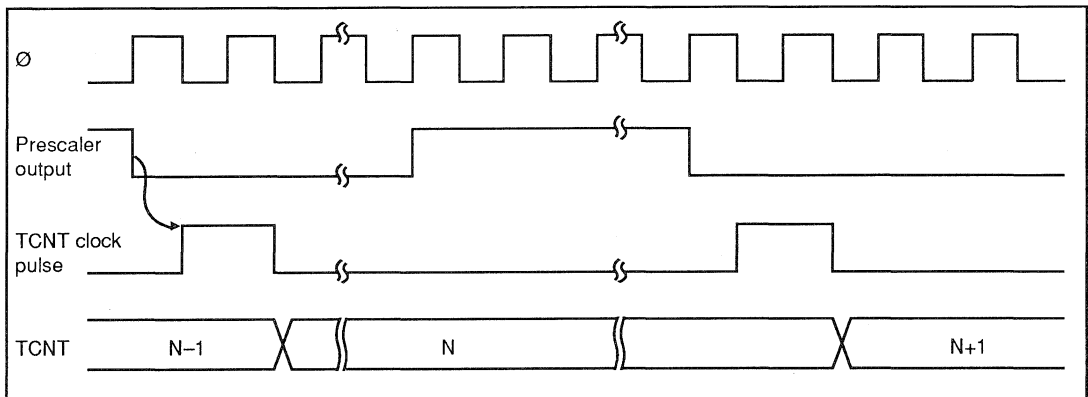

Figure 7-2. Count Timing for Internal Clock Input
**Internal Clock:** Internal clock sources are created from the system clock by a prescaler. The counter increments on an internal TCNT clock pulse generated from the falling edge of the prescaler output, as shown in figure 7-2. Bits CKS2 to CKS0 of the TCR can select one of the three internal clocks ( $\emptyset/8$ ,  $\emptyset/64$ , or  $\emptyset/1024$ ).